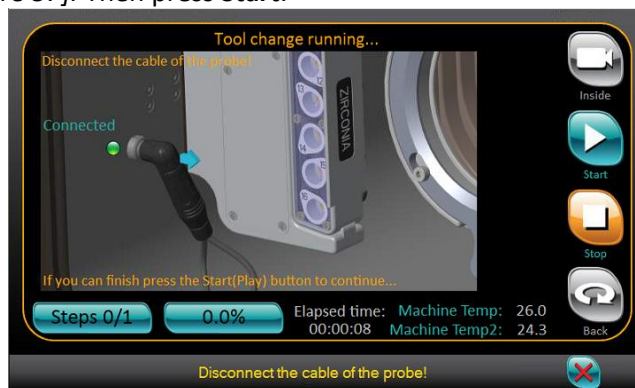

Figure 37 Disconnect the cable
3. Disconnect the TouchProbe cable and plug back the dummy. [Figure 37]. Then press **Start**.